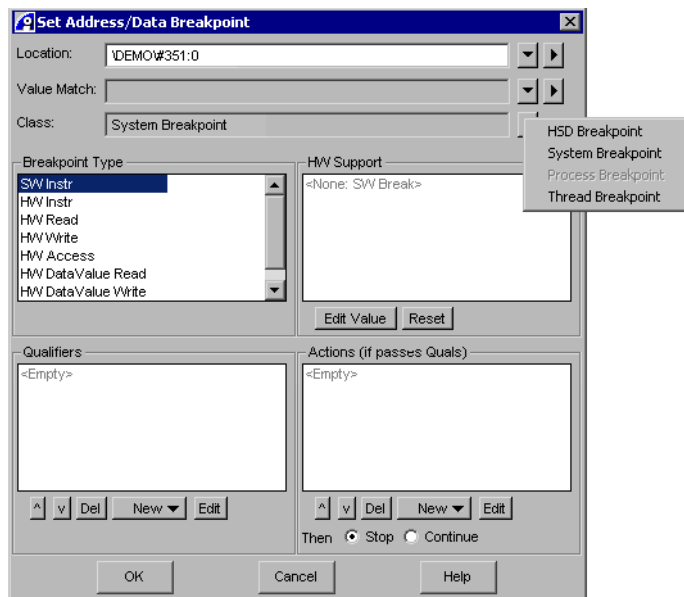

Figure 4-20 RTOS Breakpoint Class selector
2. Select **Set Break...** to display the Set Address/Data Breakpoint dialog box, shown in part in Figure 4-20 on page 4-54.